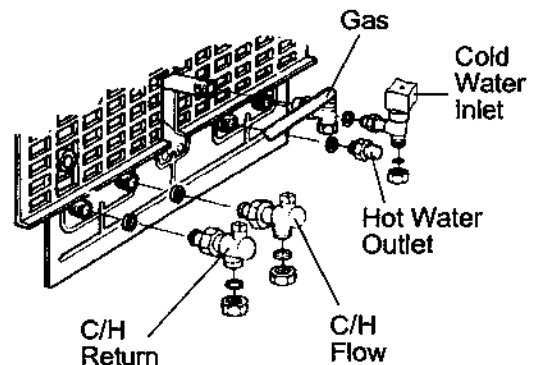

Fig. 12
5.3.4 Loosely fit (hand tight) the valves and fittings using the washers supplied (Fig. 12)